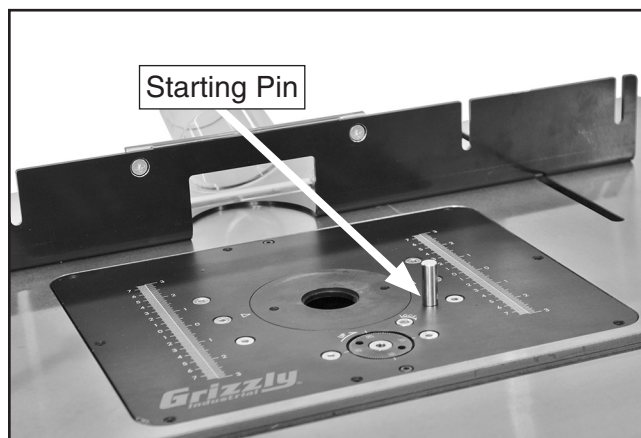

Figure 57. Router table set up with starting pin for free-hand routing.
5. Insert starting pin in hole on mounting plate (see **Figure 57**) or clamp a starting block to table (see **Figure 56**).